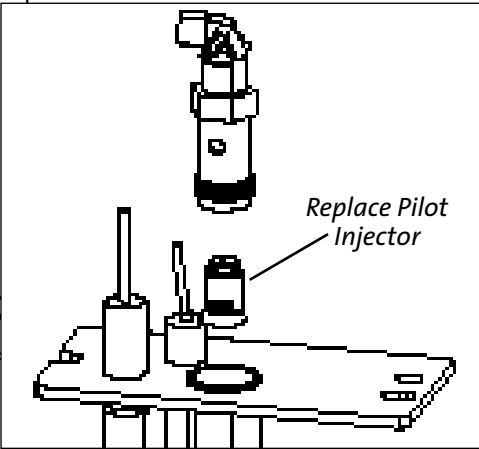

Figure 7.3.
See fig. 7.3. Using a 1/2" open end wrench or deep-well socket, remove the burner injector from the brass elbow and replace it with the injector supplied in the conversion kit.
6. **PROPANE ONLY: Install the 1/2" Air Shutter Lock Screw (Fig. 7.3)** provided in the LP Conversion Kit. The screw automatically sets the new, minimal shutter opening.
7. **Change the Pilot Injector, Fig 7.3.**